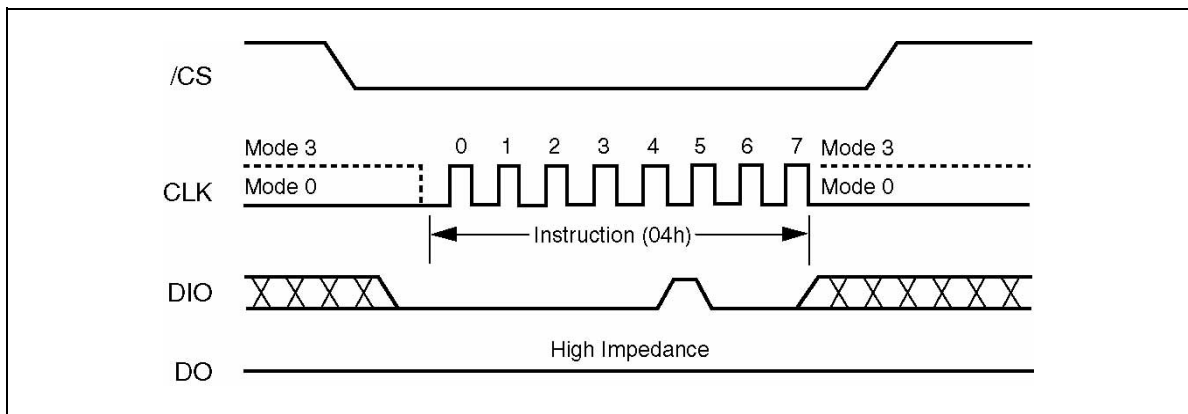

Figure 4. Write Disable Instruction Sequence Diagram
Instructions vary in length from a single byte to several bytes and may be followed by address bytes, data bytes, dummy bytes (don't care), and in some cases, a combination. Instructions are completed with the rising edge of edge /CS. Clock relative timing diagrams for each instruction are included in figures 4 through 19. All read instructions can be completed after any clocked bit. However, all instructions that Write, Program or Erase must complete on a byte boundary (CS driven high after a full 8-bits have been clocked) otherwise the instruction will be terminated. This feature further protects the device from inadvertent writes. Additionally, while the memory is being programmed or erased, or when the Status Register is being written, all instructions except for Read Status Register will be ignored until the program or erase cycle has completed.
The Write Enable instruction (Figure 4) sets the Write Enable Latch (WEL) bit in the Status Register to a 1. The WEL bit must be set prior to every Page Program, Sector Erase, Block Erase, Chip Erase and Write Status Register instruction. The Write Enable instruction is entered by driving /CS low, shifting the instruction code "06h" into the Data Input (DI) pin on the rising edge of CLK, and then driving /CS high.